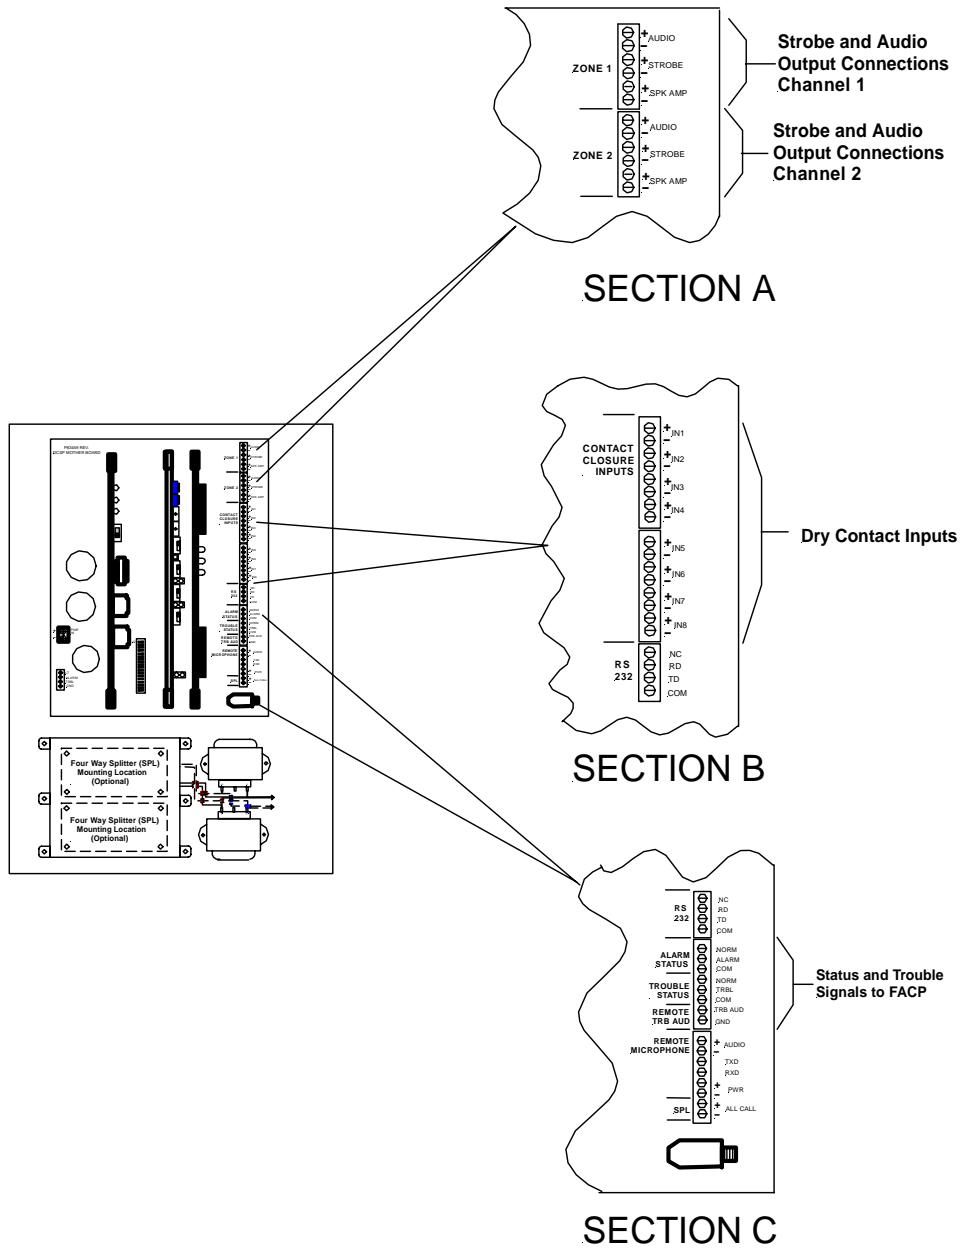
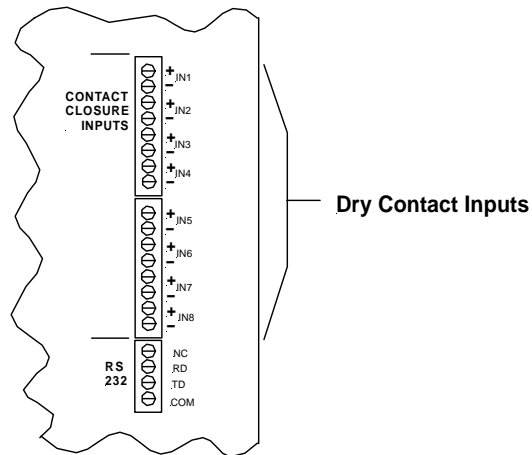
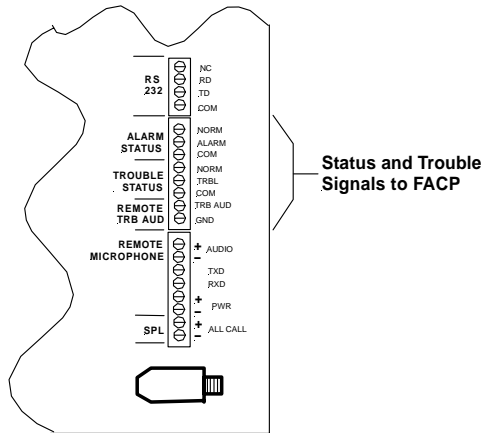

Figure 3-10
Figure 3-11
Figure 3-12
The dry contact inputs shall be dry contacts or open collector devices. The locations of the dry contact inputs are shown in Figure 3-10 Section B. A magnified view of this area on the Mother Board is shown in Figure 3-11 on Page 3-12.
- The RS-232 input terminals shown in Figure 3-11 are not used.
The location of the Alarm Status output connections are shown in Figure 3-10 Section C. A magnified view of this area on the Mother Board is shown in Figure 3-12 on Page 3-13.
The location of the Trouble Status output connections are shown in Figure 3-10 Section C. A magnified view of this area on the Mother Board is shown in Figure 3-12.
4. Play first message by momentarily shorting IN1 on the DCMB (Mother Board). (See Figure 3-11 on Page 3-12 for location)